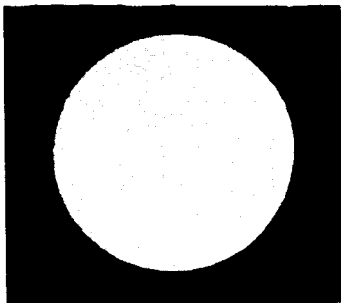

Figure 2-15. Fixed-Pattern Noise.
g. Fixed-Pattern Noise (Honeycomb). This is usually a cosmetic blemish characterized by a faint hexagonal pattern (see Figure 2-15) throughout the viewing area that most often occurs at high-light levels or when viewing very bright lights. This pattern can be seen in every image intensifier if the light level is high enough. This condition is acceptable as long as you can resolve the resolution targets at the low-and high-light levels.